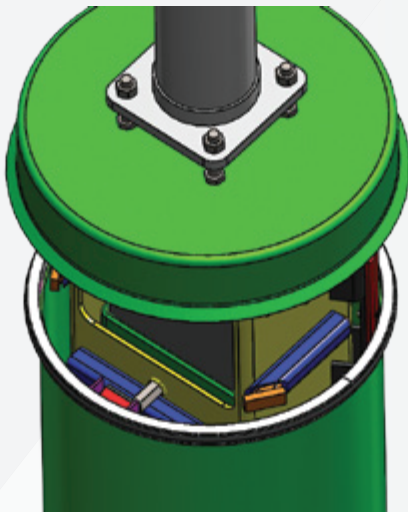
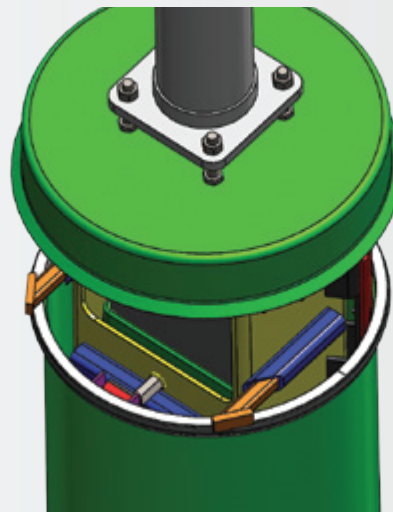

Figure 2
Figure 3
- Extend the two orange safety stands so that they rest against the 660 mm (22 in.) cylinder wall (Figures 2 and 3).
Note that the safety stands are in the retracted position for both ascendant and descending manoeuvres (Figure 2). View of the extended safety stands (Figure 3)